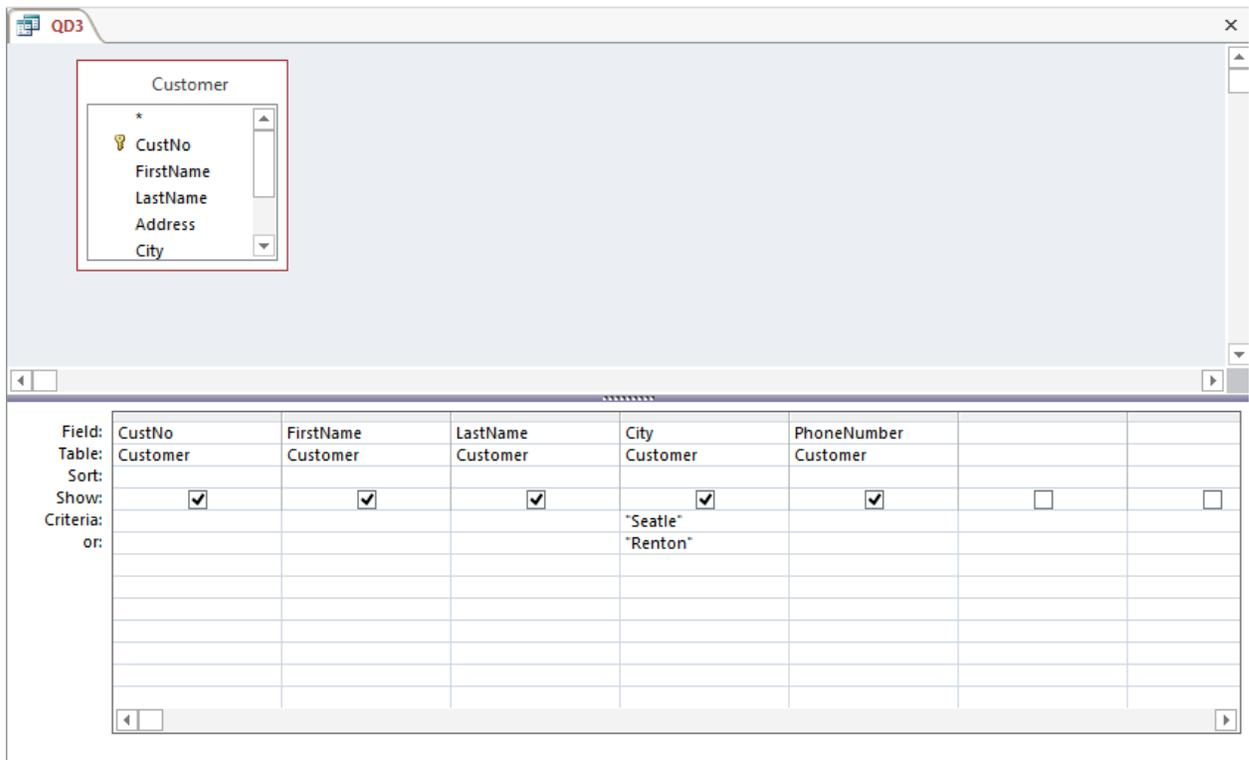

Figure 17: “QD3” with the “Seattle” OR “Renton” Criteria
3. **Enter a Condition:** Type the city name of “Renton” directly under “Seattle” in the *City* column (Figure 17). Adding a criterion in another row indicates an OR connection among the conditions. Thus, the query includes customers from either the city of Seattle or the city of Renton.